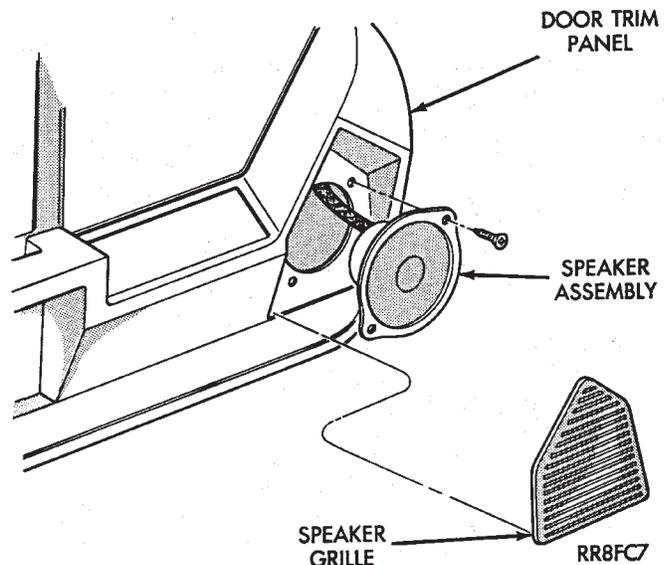

Fig. 26 Door Mounted Speaker—AJ Body
(1) Pull speaker grille away from door trim panel to disengage retaining clips (Fig. 26).
(2) Remove two speaker retaining screws.
(3) Pull speaker away from door and disconnect wiring.
(4) For installation reverse above procedures.